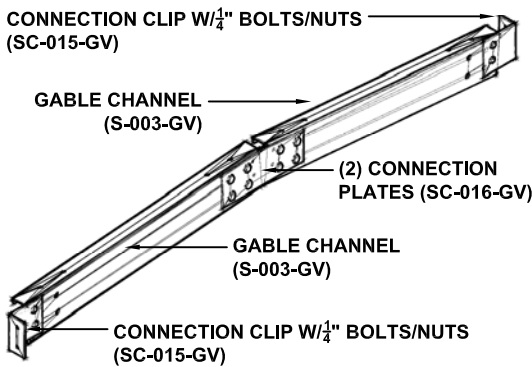

FIGURE 10 - CENTER GABLE CHANNELS
- a. **Gable Channels** - Attach (4) center gable channels(S-003-GV) as shown in **Figure 10**. Attach to Horizontal Channels using (2) Connection Clips (SC-015-GV) and $\frac{1}{4}$ " bolt/nuts. **Note holes for purlin attachment must be on top of Gable Channels**. Install Gable Channels10 (S-004-GV) in the remaining bays.